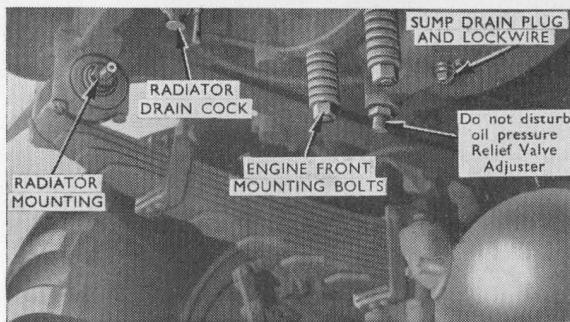

Fig. 15. Engine Front Mounting.
The two spring loaded bolts under the front crossmember should not be dead tight but should have allowance for movement of the engine against the springs (see Fig. 15).
- (e) Sump drain plugs. **See also that lockwire is secure.** (Figs. 15 and 16).
Do not disturb the oil pressure relief valve adjuster (Fig. 15).
- (i) Radiator mounting and tie rod. The radiator is carried on rubber blocks mounted on extensions of the pins through the front dumb irons (*Fig. 15*). The tie rod runs from the rear of the top tank to the rear of the driver's cab.